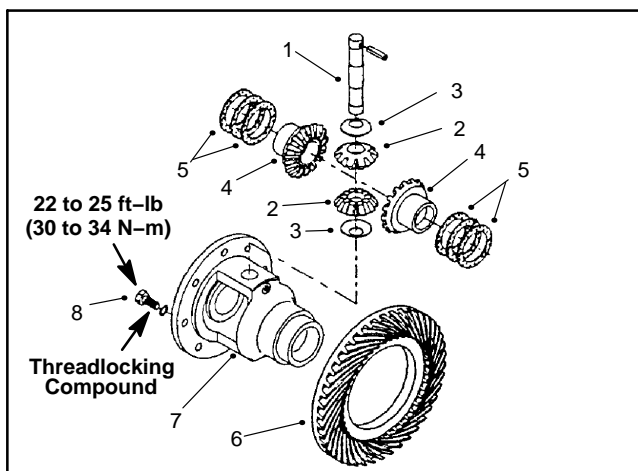

Figure 34
7. Remove the differential pinion shaft, pinion gears, and pinion washers. Remove the differential side gears and side gear shims. Remove the ring gear only if it will be replaced (Fig. 34).